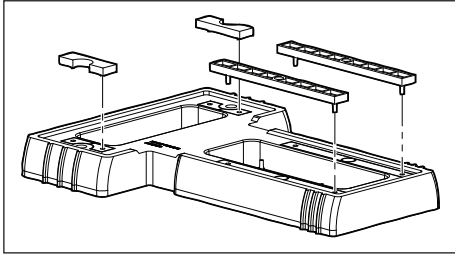

Figure 7. Snap Spacers Into Place
- Align the pins in the four spacers with the holes in the base. Snap the spacers into place (Figure 7).